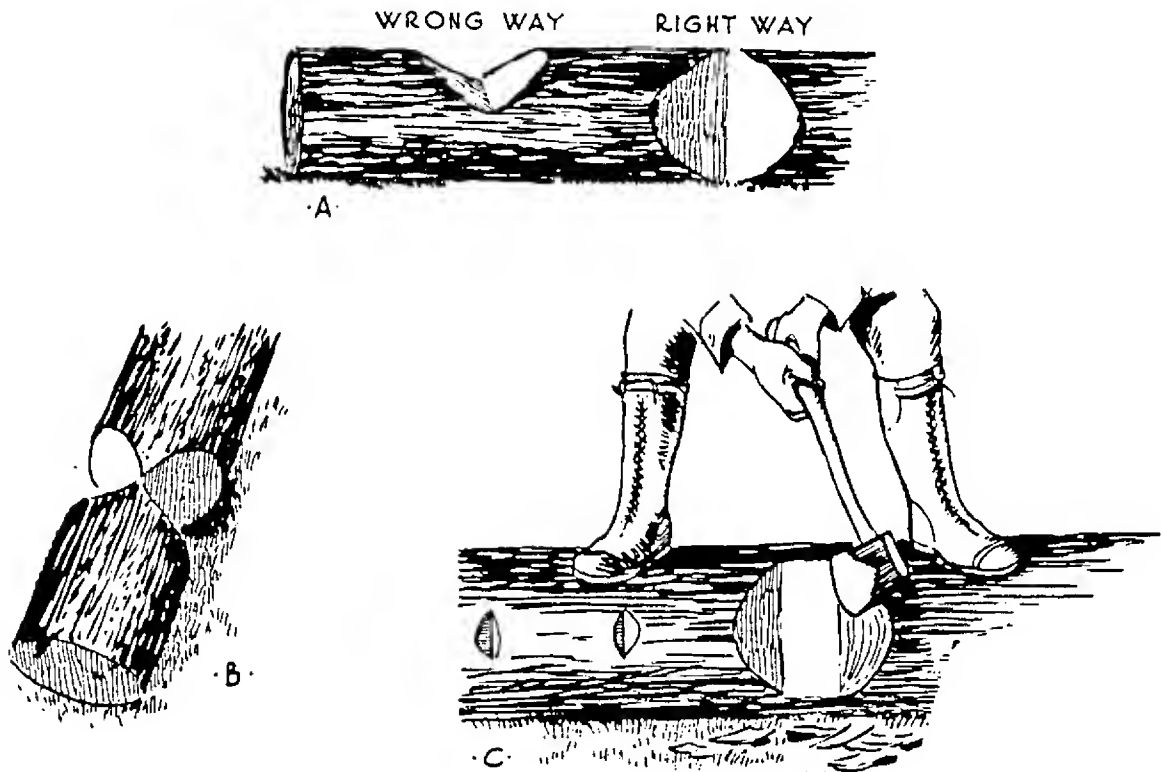

Figure 32
3. Logging-up a Tree Log-up is a term used for logging or bucking which means to cut the tree trunks into desired lengths. Logging-up a tree is done by making V-shaped notches of the same diameter as the tree. Make cuts as shown in Figure 31. When half through, the axeman should cut from the opposite side of the tree. A log or tree trunk should be chopped with the axeman standing on top of the log or behind it, and cutting through it from its sides. This eliminates having to turn logs over. See Figure 32.